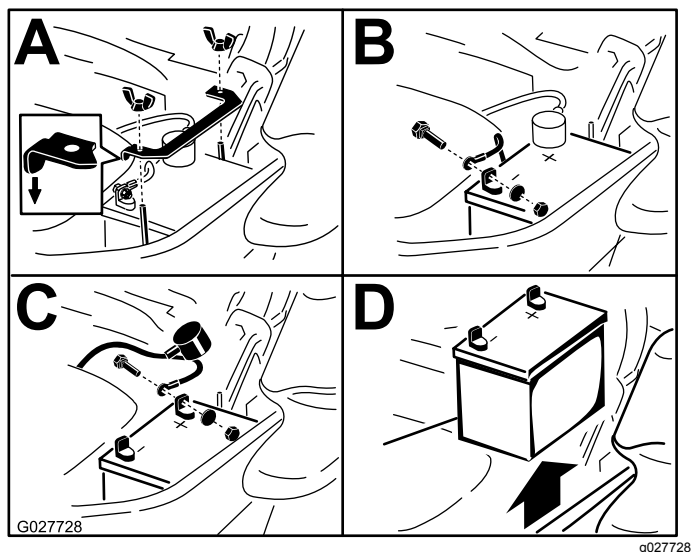

Figure 54
3. Remove the battery as shown in Figure 54.